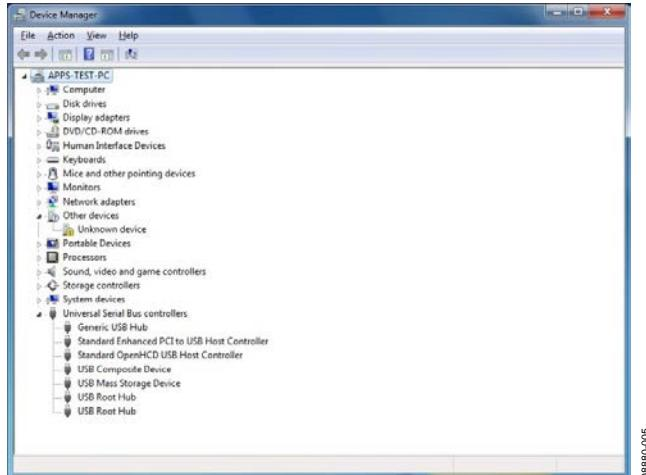

Figure 5. Device Manager
- Find the new unknown device (the evaluation board) in **Device Manager** and double-click it to open the properties. The device should be **Unknown device**, under **Other devices** (see Figure 5).